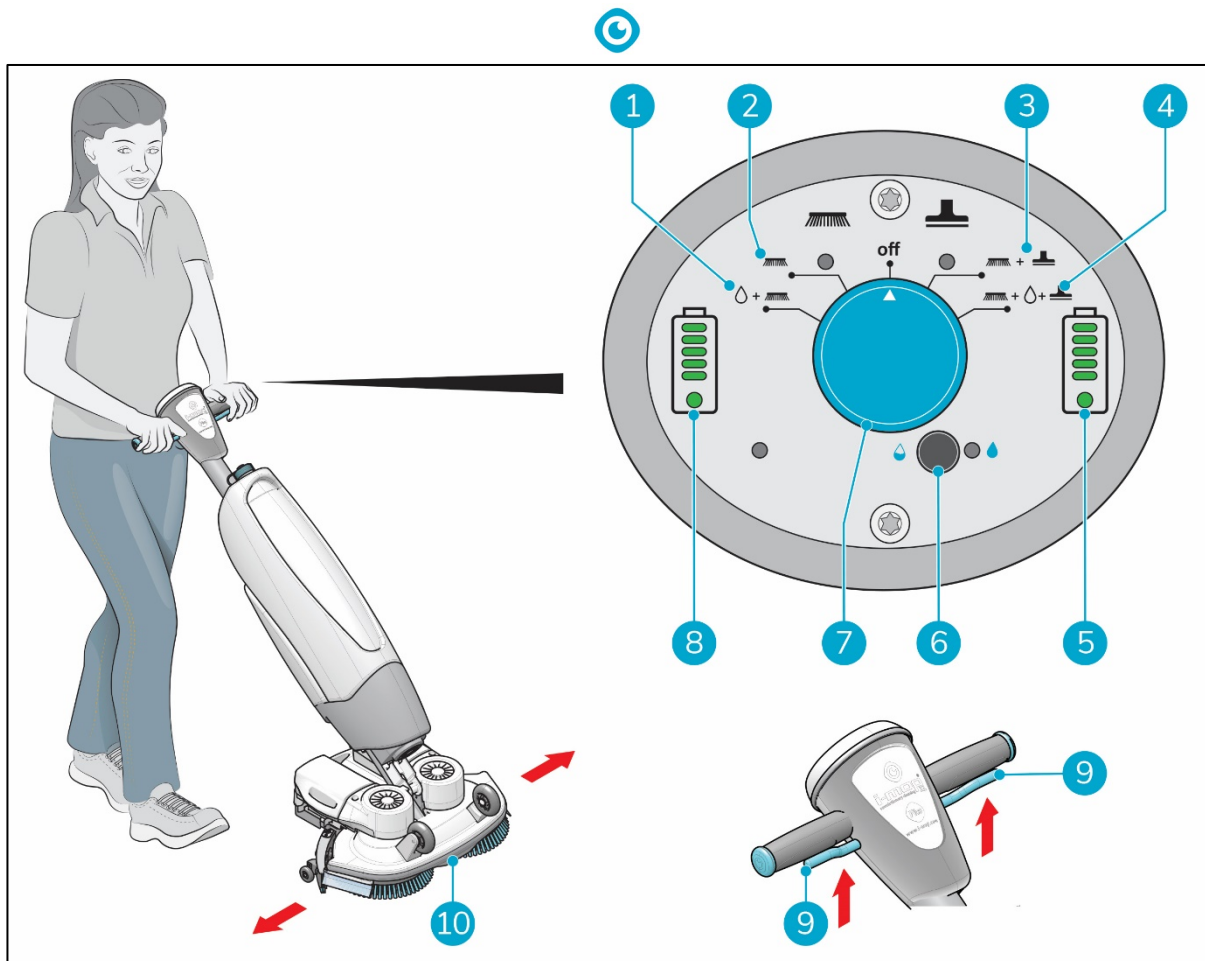

Figure 17
5. Choose your cleaning mode via the main switch (Figure 17, pos 7). This will also turn on the i-mop XXL pro.
- MODE 1: Brush + water/cleaning solution (Figure 17, pos 1).
- MODE 2: Brush only (Figure 17, pos 2).
- MODE 3: Brush + vacuum (Figure 17, pos 3).
- MODE 4: Brush + water/cleaning solution + vacuum (Figure 17, pos 4).
7. Squeeze the trigger on the handle (Figure 17, pos 9).
10. Steer by gently turning the handle left or right to move the scrub deck (Figure 17, pos 10).
11. Releasing the trigger (Figure 17, pos 9) will immediately stop the i-mop XXL pro. The vacuum motor will stop after 3 seconds.